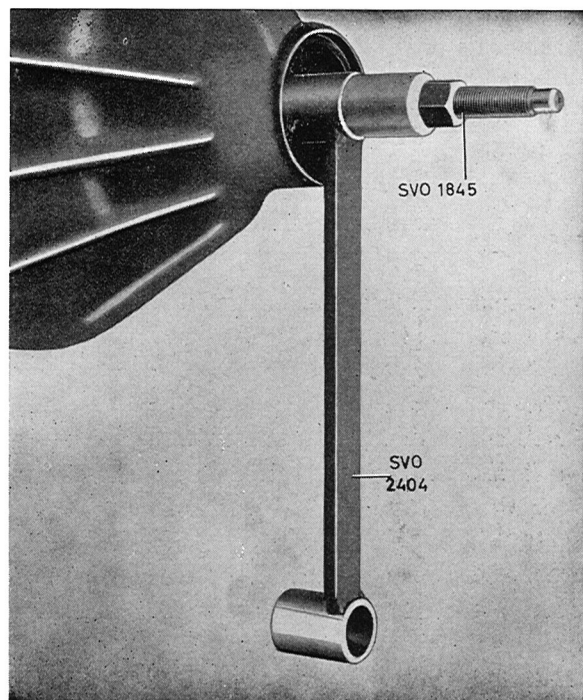

Fig. 4-174. Installing pinion
5. Insert the pinion in the housing and install three .75 mm (.03") thick shims and the front pinion bearing. Install tool 2404 and press tool 1845 on the front end of the pinion and pull in the pinion, see Fig. 4-174. At installation, and especially when using an impact wrench, guide the pinion so that it does not touch the bearing races.